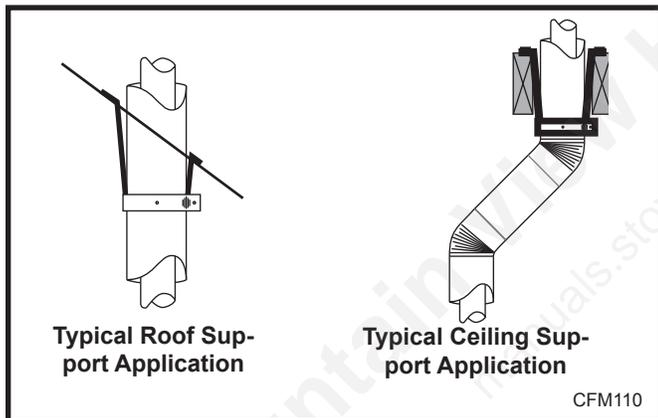
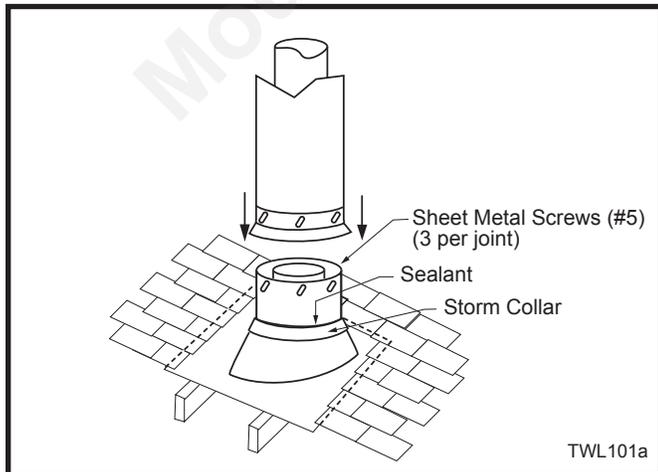

Fig. 33 Chimney support.
Fig. 34 Roof flashing.
- 7DVCS supports offsets. (Fig. 33) This application will require you first determine the roof pitch and use the appropriate starter kit. See Venting Components List, Page 22.
7. Install roof support (Fig. 33) and roof flashing making sure upper flange is below the shingles. (Fig. 34)
8. Install appropriate pipe sections until the venting is above the flashing. (Fig. 34)